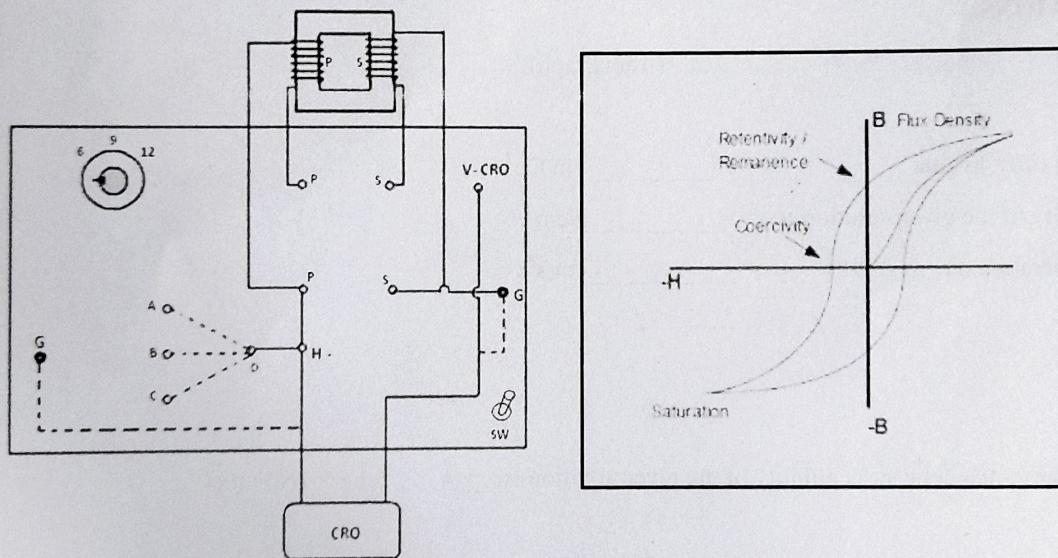

Figure 1 B-H Curve Unit
1. The unit, one to force the B-H loop (hysteresis) of a ferromagnetic specimen using a CRO is shown in Figure 1. A measurement of the area of the loop leads to the evaluation of energy loss in the specimen. The top view of the unit is shown in the Figure 1. The value of R_1 can be selected connecting terminals D to B (or C or A)